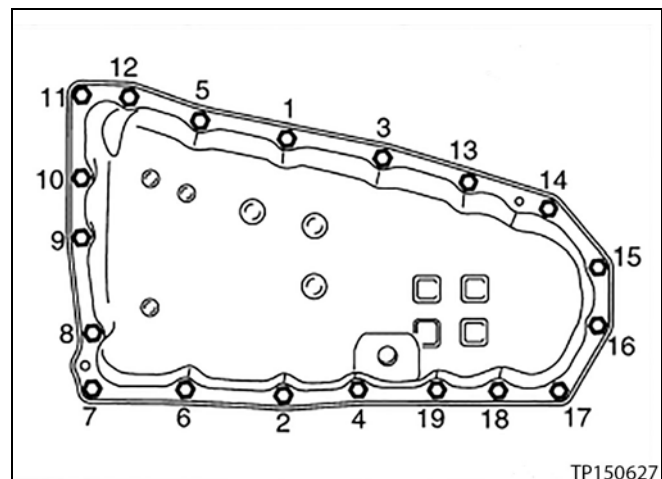

Figure 33
12. Install the oil pan bolts (see Figure 33).